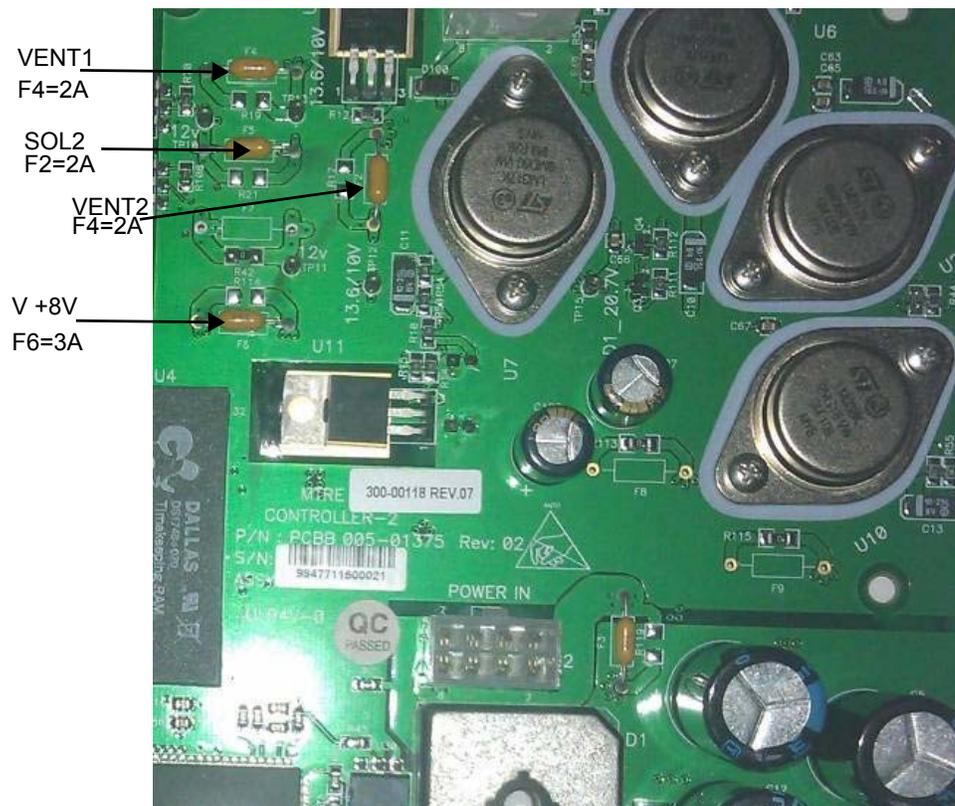

Figure 9-5: Controller Board Fuse Location
4. Solder the replacement fuse to the proper contact point (contact points are shown in Figure 9-5).